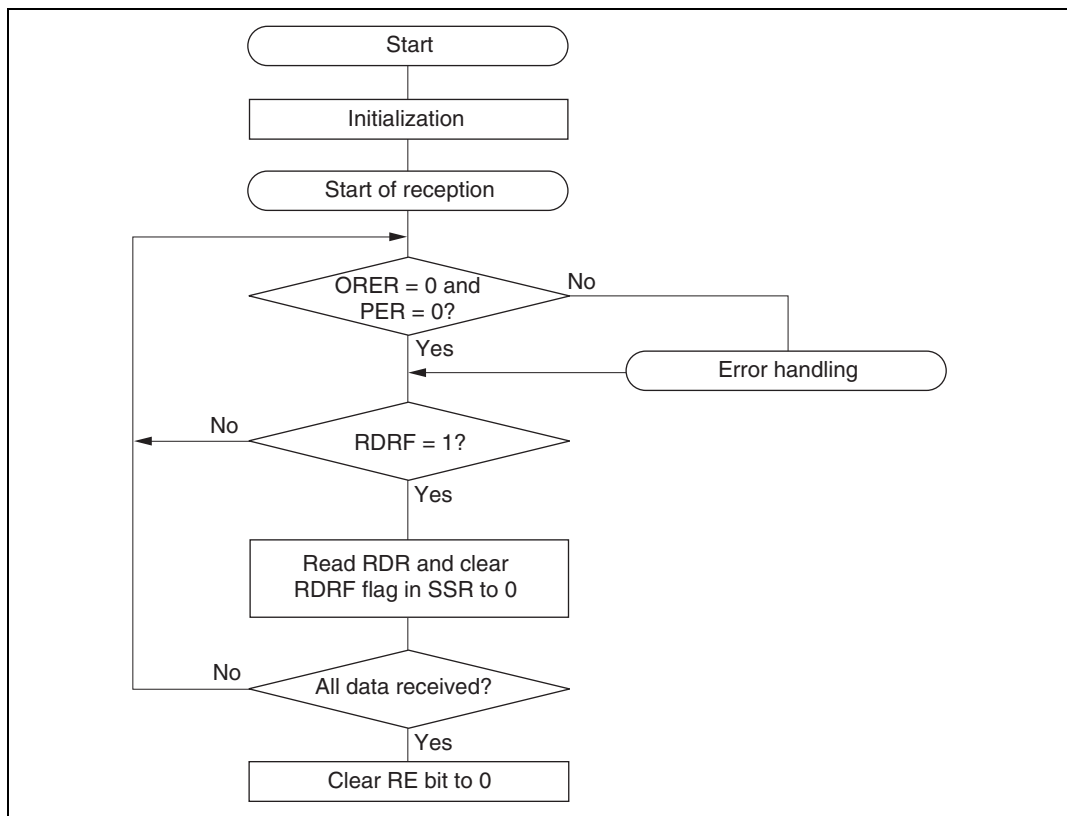

**Figure 13.7 Sample Reception Flowchart**
**Serial Data Reception (Except Block Transfer Mode):** Data reception in smart card mode uses the same processing procedure as for the normal SCI. Figure 13.7 shows an example of the transmission processing flow.